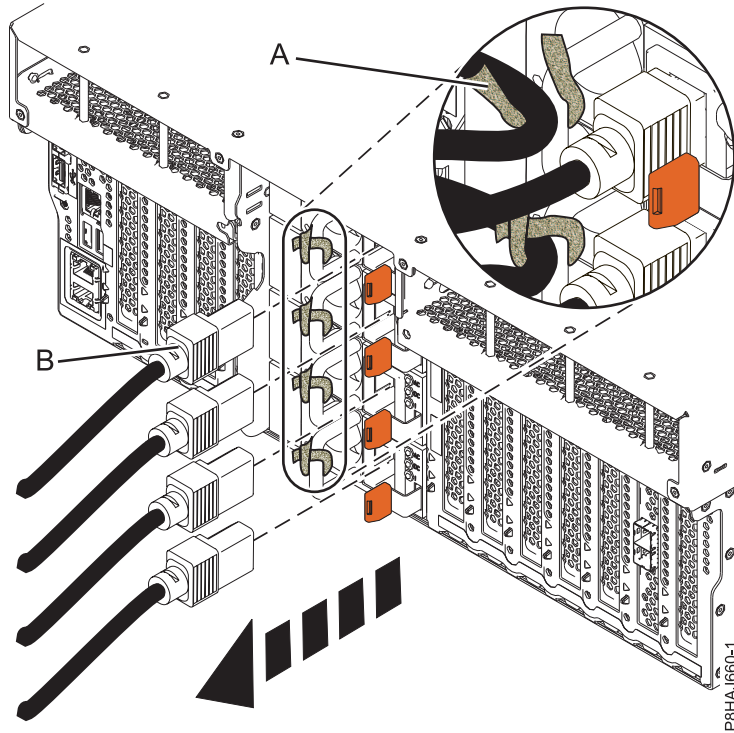
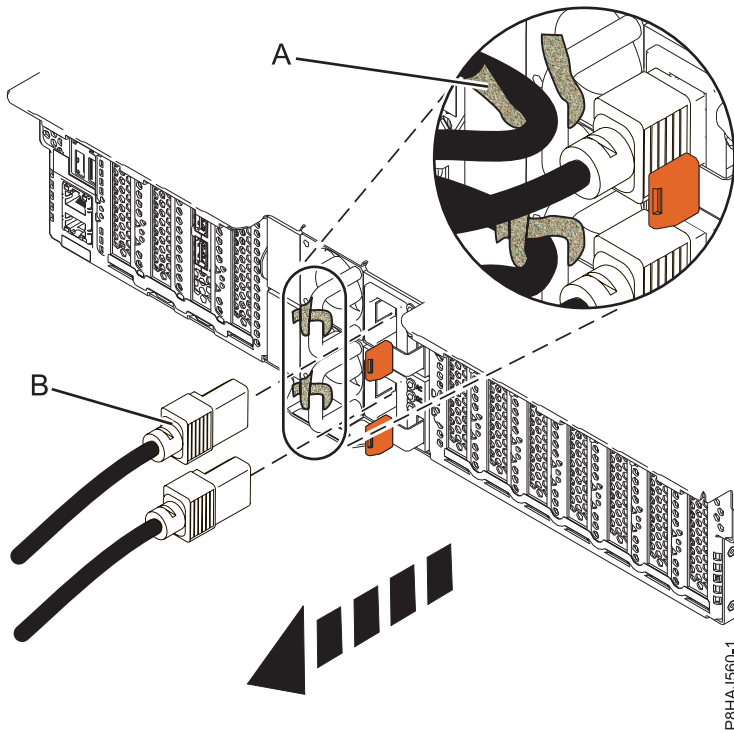
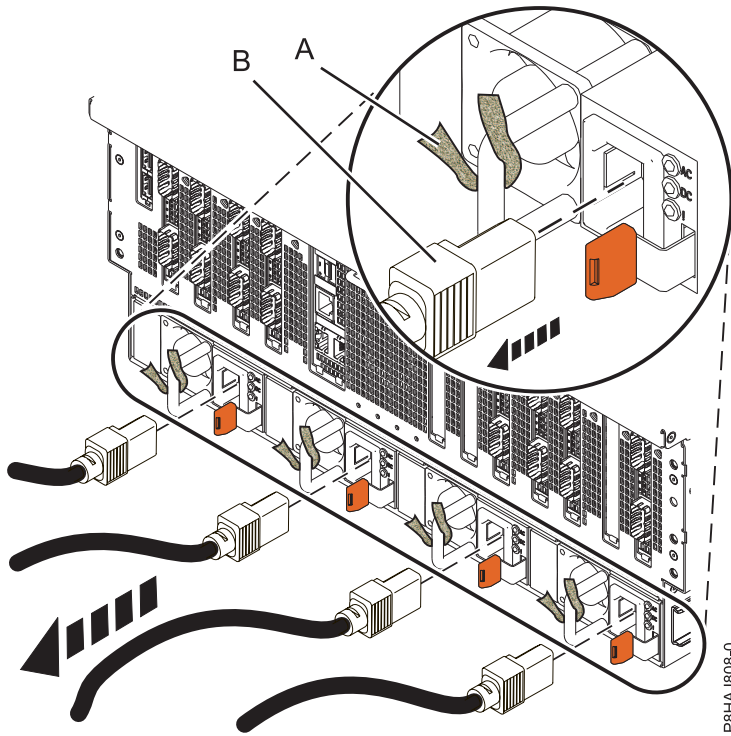

Figure 45. Removing the power cords from an 8247-42L, 8286-41A, or 8286-42A system
Figure 46. Removing the power cords from an 5148-21L, 5148-22L, 8247-21L, 8247-22L, 8284-21A, or 8284-22A system
Figure 47. Removing the power cords from an 8408-44E or 8408-E8E system
3. Disconnect the power cords (**B**) from the system unit. See Figure 45 on page 61, Figure 46 on page 61, or Figure 47 on page 62 or depending on the type of your system.